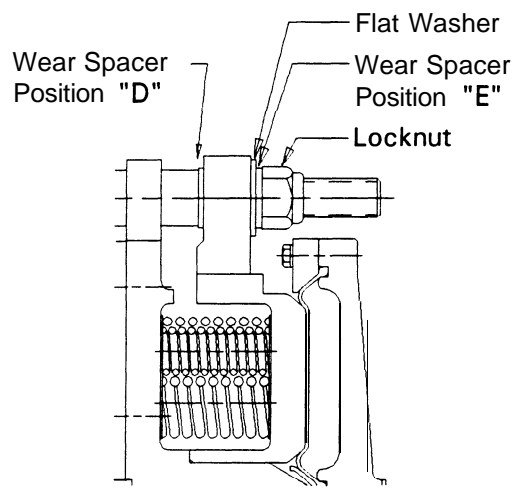

Fig. 13
- 4. 2. 21 Hoist the pressure plate, spring housing and end plate assembly into position, and slide the assembly over the clamp tubes, placing the required number of wear spacers (25) onto the studs between the pressure plate and spring housing (position "D" on Figure 13). See Table 3 for proper quantity.
- 4. 2. 22 Install the washers (44), remaining wear spacers (25), and locknuts (9) removed in 4.2.4. The wear spacers are stored under the locknuts (position "E") for re-use after replacing the friction discs. See Figure 13.